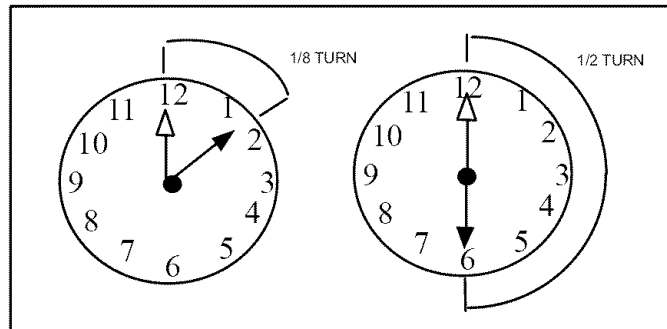

Figure 17. Tightening Distance
4. Attach the liquid line assembly to the liquid line orifice housing. Finger tighten and use an appropriately sized wrench to turn an additional 1/2 turn clockwise as illustrated in figure 17, or 20 ft-lb.
2. Attach the stubbed end of the kit valve to the liquid line orifice housing. Finger tighten and use an appropriately sized wrench to turn an additional 1/2 turn clockwise as illustrated in figure 17, or 20 ft-lb.
4. Attach the liquid line assembly to the TXV. Finger tighten and use an appropriately sized wrench to turn an additional 1/2 turn clockwise as illustrated in figure 17, or 20 ft-lb.
- Connect the equalizer line from the TXV to the equalizer suction port on the suction line. Finger tighten the flare nut plus 1/8 turn (7 ft-lbs) as illustrated in figure 17.